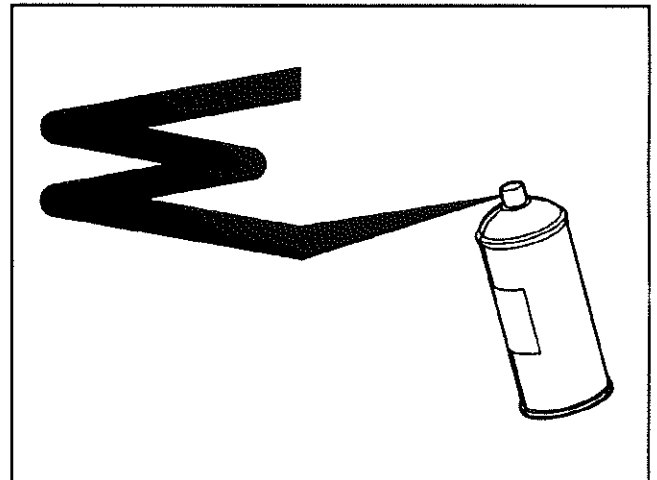

Fig. 1
3. Apply the recommended repair paint, either aerosol or air spray gun, to the damaged area. The can or spray gun should be kept at a distance of 6 to 10" (150 to 250 mm) from the surface to be covered, with continuous side-to-side motion, sweeping across the damaged area. To ensure a good blend with existing paint, the sweeping motion should begin and end to the side of the area to be covered. Larger areas to be covered will require the back-and-forth sweeping motion to be gradually moved up and/or down, as shown in figure 1.